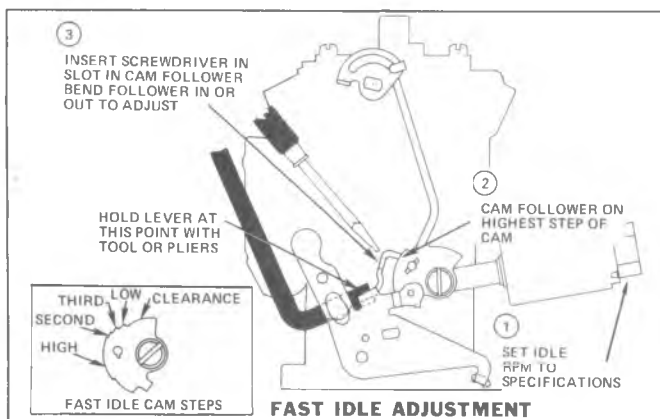

Fig. 1C—Fast Idle Adjustment (Rochester MV)
FAST IDLE ADJUSTMENTS (Figs. 1C, 2C and 3C) ROCHESTER MV AND 4MV
- b. Bend fast idle lever as required on Rochester MV to specified speed (Fig. 1C).